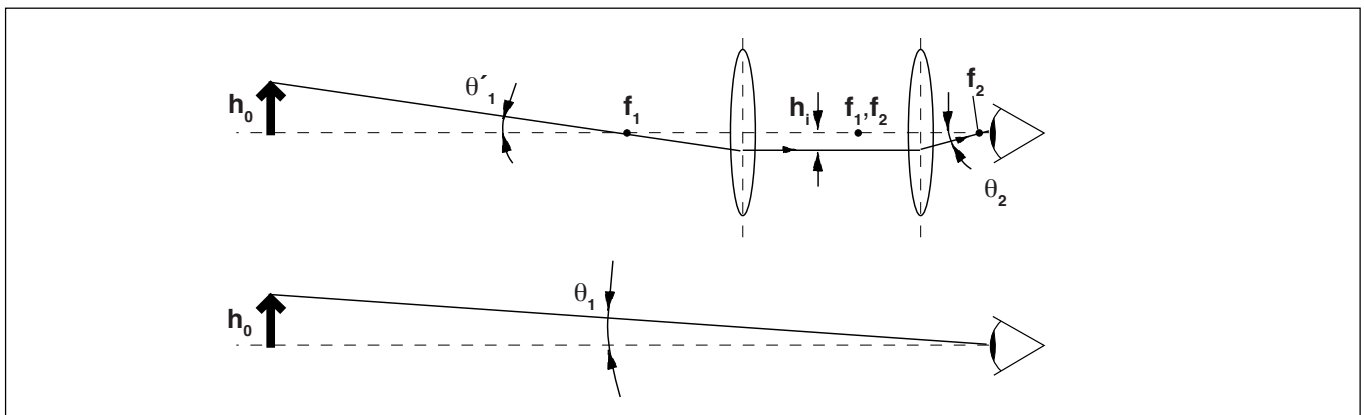

Figure 21.2 Telescope Magnification
The angular magnification (see Experiment 20: The Magnifier) for a telescope can be approximated by assuming the lenses are exactly $f_1 + f_2$ apart, as shown in Figure 21.2. The height of the object as seen with the naked eye is proportional to the angle θ_1 in the lower diagram. If the distance from the object to the telescope is large—much larger than is shown in the diagram— $\theta_1 = \theta_1'$, to a good approximation. The ray shown in the upper diagram passes through the focal point of the objective lens, comes out parallel to the optical axis of the telescope, and is therefore refracted by the eyepiece through the focal point of the eyepiece. The angle θ_2 is therefore proportional to h_i , the height of the image seen by the observer.
- Using Figure 21.2, calculate $\tan \theta_1$ and $\tan \theta_2$ as a function of the height of the image, h_i , and the focal lengths of the two lenses, f_1 and f_2 .